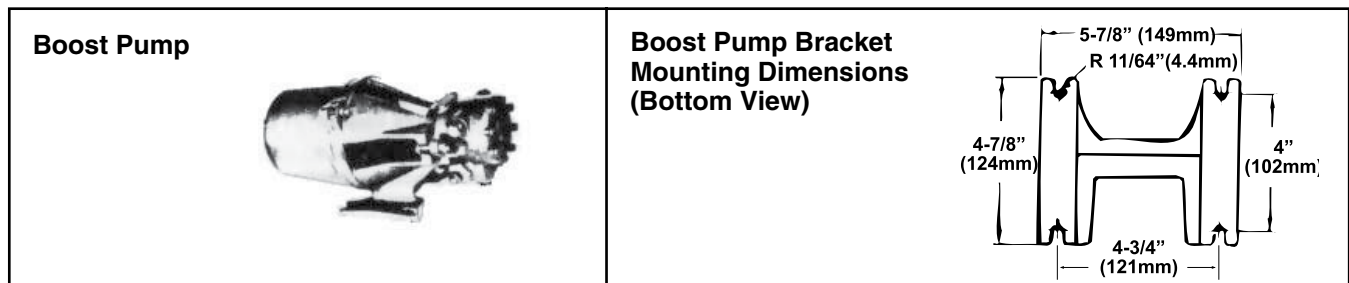

**Figure 7. Pressurized Supply System for Multiple-Unit Installations**
- The pressurized system (see Figure 7) uses a boost pump to supply fuel oil to a manifold with branch lines that supply each heater. The end of the manifold is capped, and the system is operated at a pressure not exceeding 3 psi at the first burner supplied.